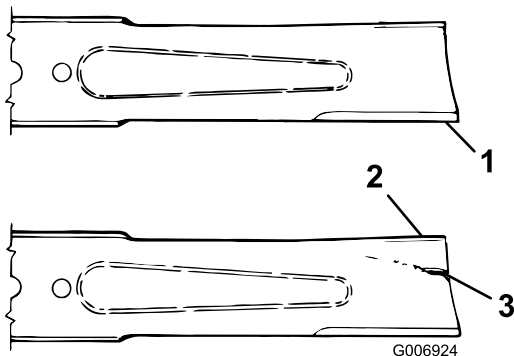

Figure 66
3. Examine the cutting ends of the blade carefully, especially where the flat and curved parts of the blade meet (Figure 66).
4. If wear is noticed (Figure 66), replace the blade; refer to Servicing the Blade Plane (page 54).